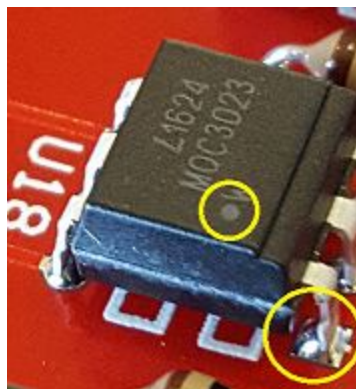

Fig8
17. Install the following moc3020 optoisolators. Ensure that the dot on the package orients with the square pin indicating pin 1 on the circuitboard. See Fig8.
18. Install the U6, ST485BN, RS485 transceiver. Ensure that the dot on the package orients with the square pin indicating pin 1 on the circuitboard. See Fig8.
19. Install the U2, 24LC256 , eeprom. Ensure that the dot on the package orients with the square pin indicating pin 1 on the circuitboard. See Fig8.
20. Install the U1, P8X32A-D40, microcontroller. Ensure that the dot on the package orients with the square pin indicating pin 1 on the circuitboard. See Fig8.
21. Install the following CD4014 shift registers. Ensure that the dot on the package orients with the square pin indicating pin 1 on the circuitboard. See Fig8.
22. Install the U3, H11AA1, optoisolator. Ensure that the dot on the package orients with the square pin indicating pin 1 on the circuitboard. See Fig8.